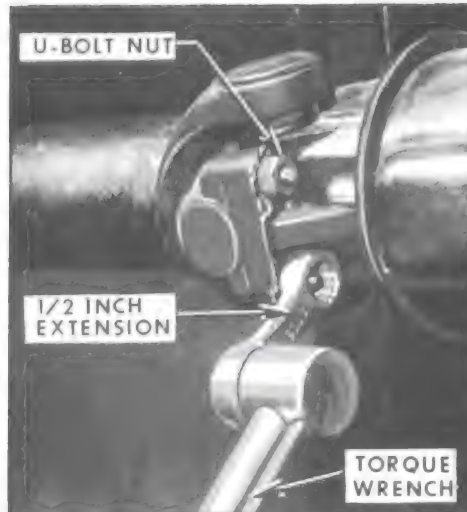

Figure 6-71—Using Extension to Torque U-Bolt Nuts
6. Install U-bolt clamps and nuts. Draw nuts up evenly and torque to 13 ft. lbs. using a 1/2 inch extension such as J-9113. (On 4700, install four pinion flange bolts and torque evenly to 75 ft. lbs.). See Figure 6-71. CAUTION: Overtightening U-bolt nuts